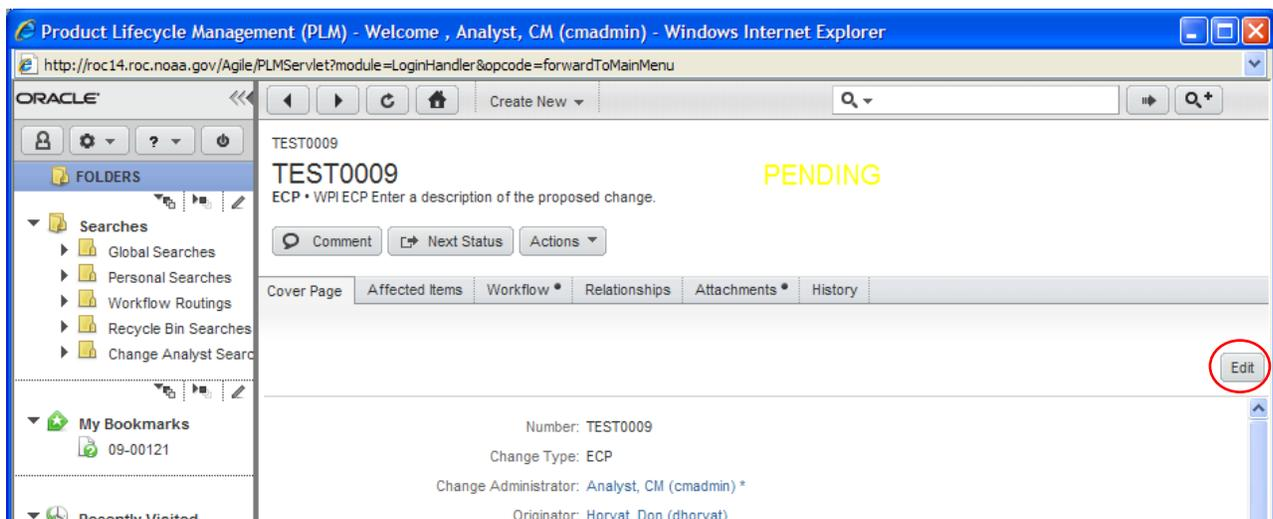

Figure 19: Edit button location on ECP form.
6. Click the **Edit** button  on the Agile CCR form (Figure 19).